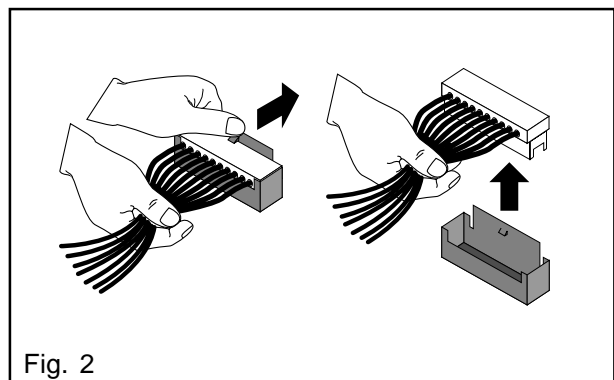

Fig. 2
- Loosen the swivel nut on the inlet valve, take off the supply hose and pull the inlet valve forwards out of its support (Fig. 2).
WARNING: Do not pull the hose (1) out of the angular nozzle. Otherwise the water will flow out of the boiler. There is a risk of being scalded. (Fig. 2)
- Disconnect the cable connection (2) to the boiler (Fig. 2).
- Disconnect the cable connection to the electronic control (4) (VMC board) at the electronic control (Fig. 2).
- Remove screw (3) and remove the power supply unit. Guide the power supply cable through the opening in the dispenser housing (Fig. 2).
Disconnecting plugs from the control unit Plug type 1 (2.5 mm grid, Fig. 2)